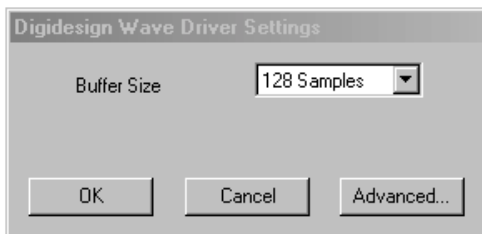

Figure 5. Digidesign WaveDriver Settings dialog
- 11 You should now see the WaveDriver Settings Dialog (see Figure 5 on page 88).